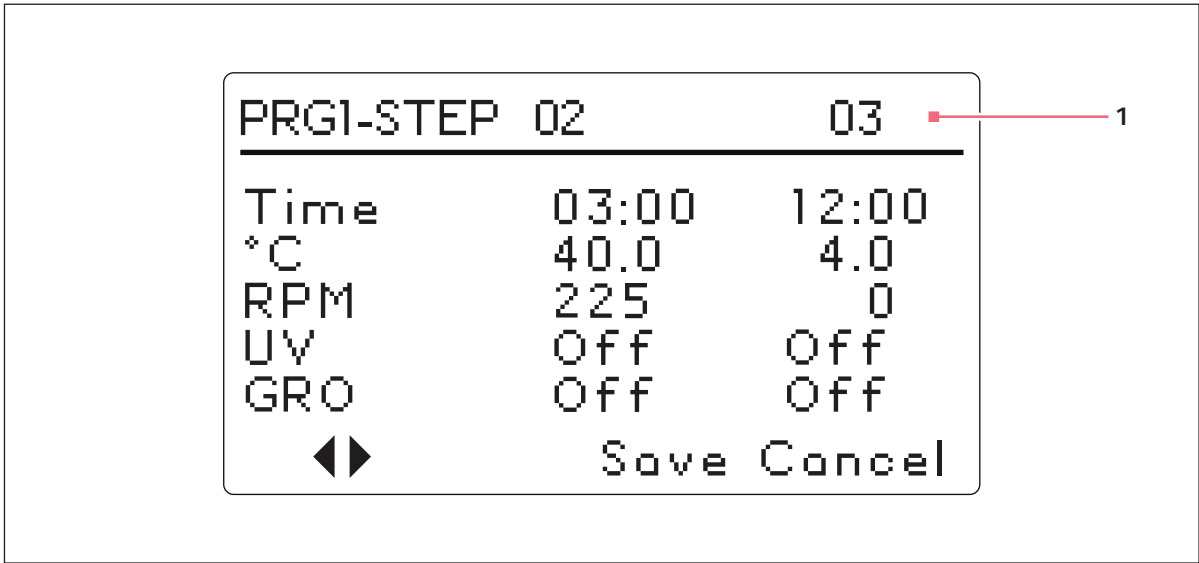

Fig. 5-14: Program 1, Step 3
10. Continue to program as many as 15 steps in the same manner. For our sample program, we have only 3 steps (see Fig. 5-14 on p. 55).